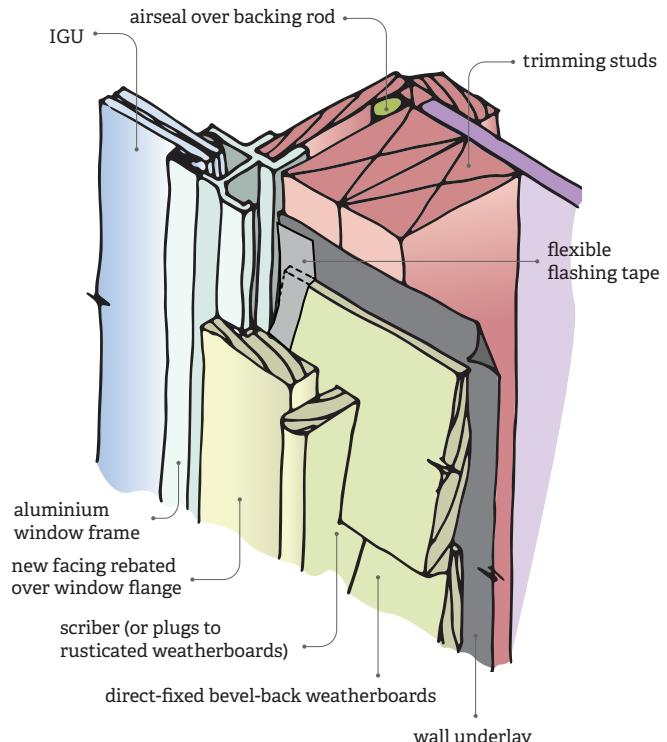

Figure 5. Installing new facings after window is installed.
- fitting facings after the window is installed (Figure 5).